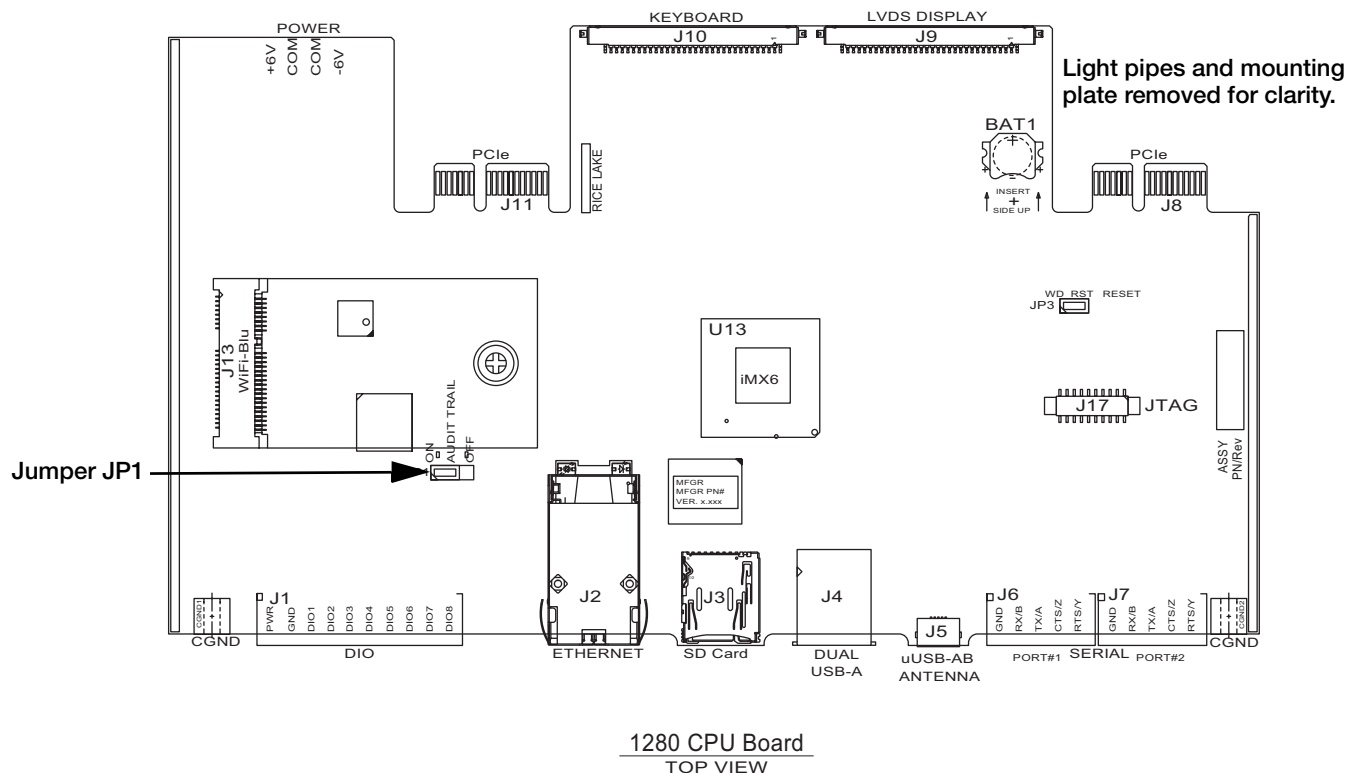

Figure 3-3. Jumper Locations
*In order to access Configuration through the front panel (by pressing the button on the touchscreen), jumper JP1 needs to be in the on (left) position. In order to restrict access to Configuration using the front panel, JP1 needs to be in the off (right) position, requiring the setup switch to access Configuration. See Figure 3-3 on page 45.*